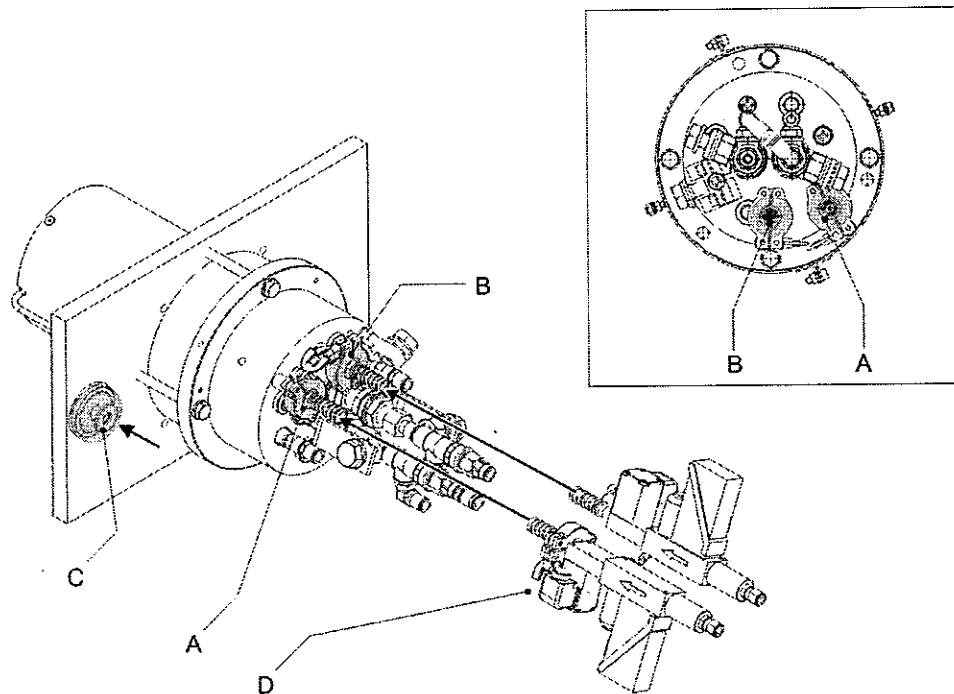

Fig. 3-14
A gas supply unit outside the process chamber helps regulate the amount of gas. The unit basically consists of a flow regulator (D) for metering the gas and a solenoid valve for shutting off the gas. Both are driven by the PLC electronic controller. The illustration in Fig. 3-14, 44 displays an overview of the locations of the gas connections.